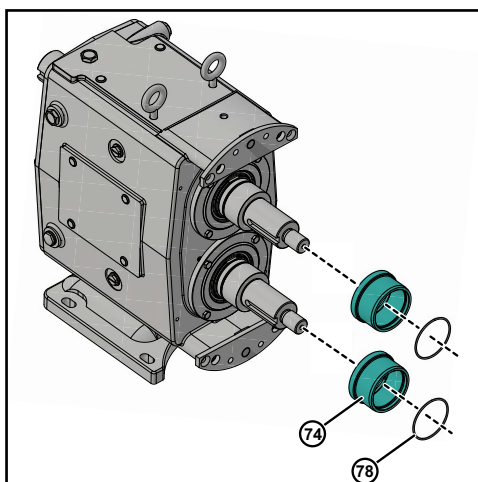

Figure 83 - Install Sleeves and O-rings
1. Lubricate the two sleeve O-rings (78) with a lubrication compound compatible with the O-ring material and process fluid(s). Install the sleeve O-rings (78) into the groove of the sleeve (74),
2. Install the two sleeves (74) on the shaft, as shown in Figure 83.